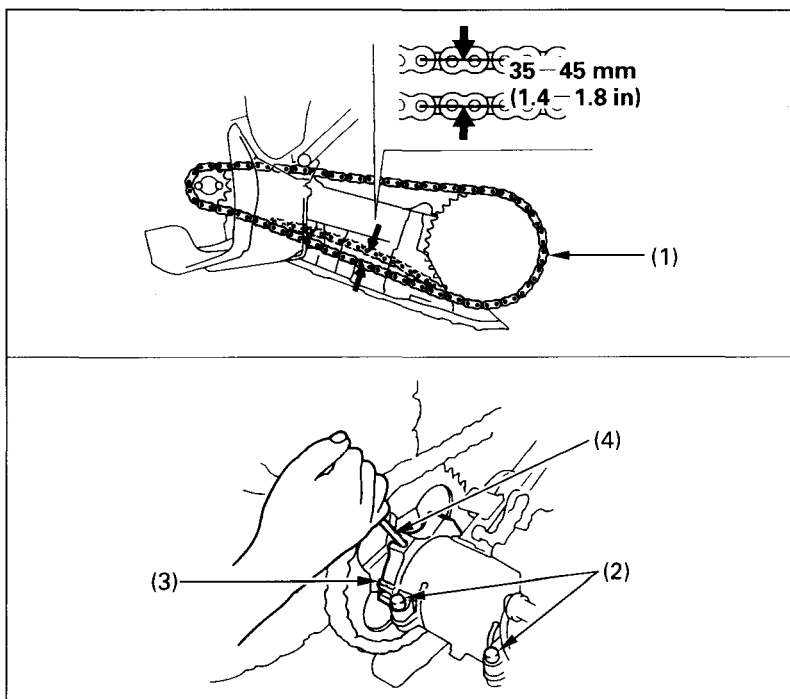

Fig. 4-13
To adjust slack, loosen the rear axle holder lock bolts (2), (Fig. 4-13). Turn the adjuster (3) to decrease or increase chain slack. Retighten the rear axle holder fixing bolts.